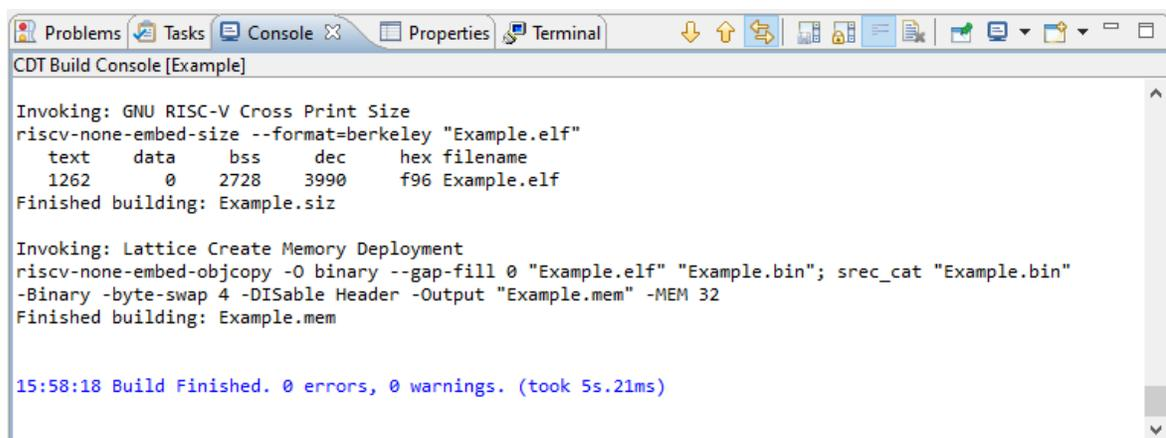

Figure 3.26. Build Result of C/C++ Project
4. The results of the build command are displayed in the **Console** view (Figure 3.26).